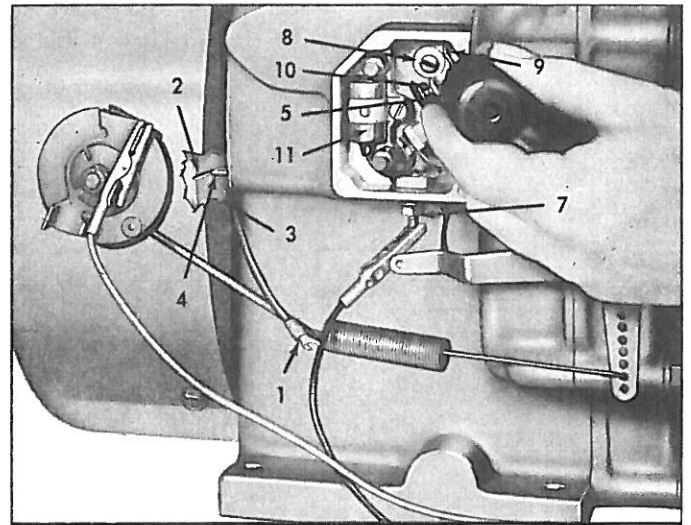

Fig. 7, STATIC TIMING FOR MODELS S-10D, S-12D, S-14D
**Model S-14D:** The timing groove on the rim of the flywheel, Fig. 7, Ref. 2, is marked for the  $18^{\circ}$  magneto and battery ignition advance, and timing can be checked to this mark for solid state ignition while engine is running at 1000 R.P.M. When checking the  $20^{\circ}$  running spark advance, at 2500 R.P.M. or over, the timing mark (groove) will appear about  $1/8$  inch above the timing pointer.